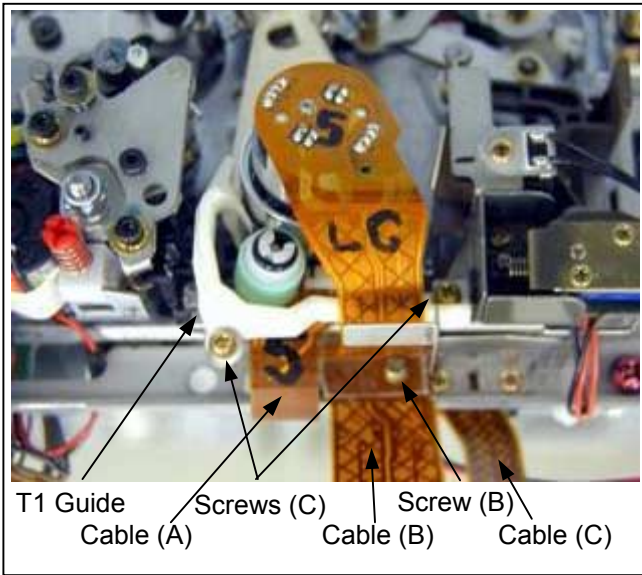

Figure 5-1-2
2. Unscrew the screw (B) which fixes the cable (B) as shown in Figure 5-1-2.